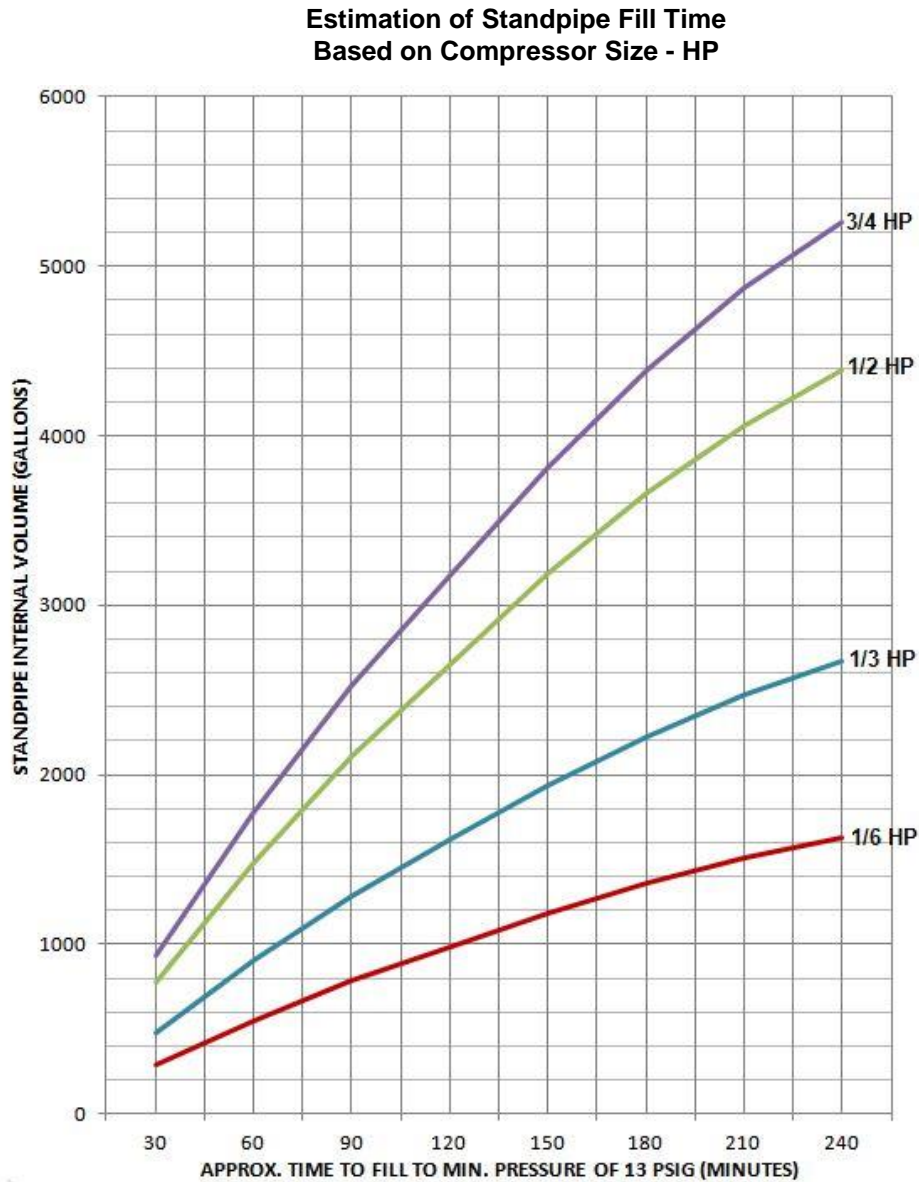

Figure 5 – Estimating Standpipe Fill Time
2.3. Determining Proper STANDPIPE-PAC™ To Use. See Figure 5.